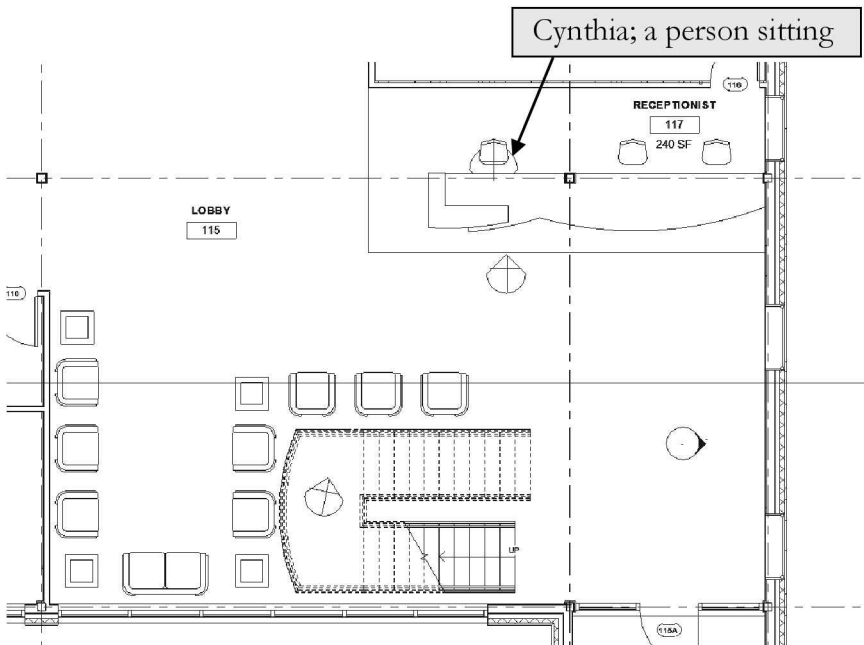

FIGURE 15-5.1 Level 1 – RPC people added
6. Place two **Males** and one **Female** as shown in **Figure 15-5.1**.
The line in the circle (Figure 15-5.1) represents the direction a person is looking. You simply rotate the object to make adjustments.